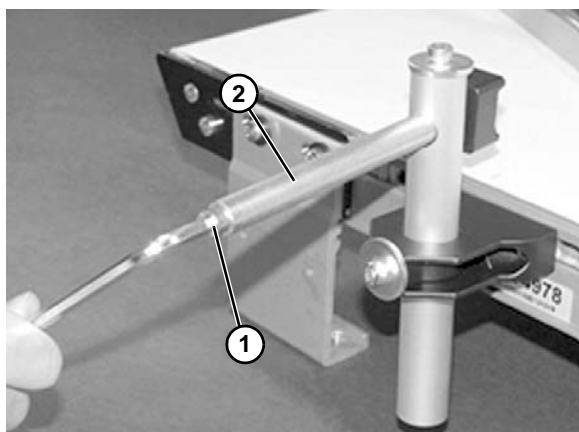
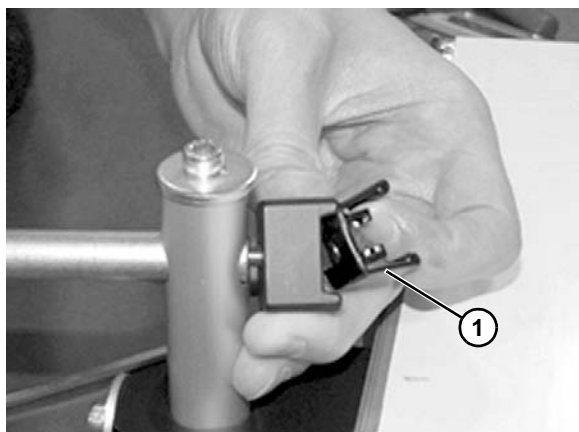
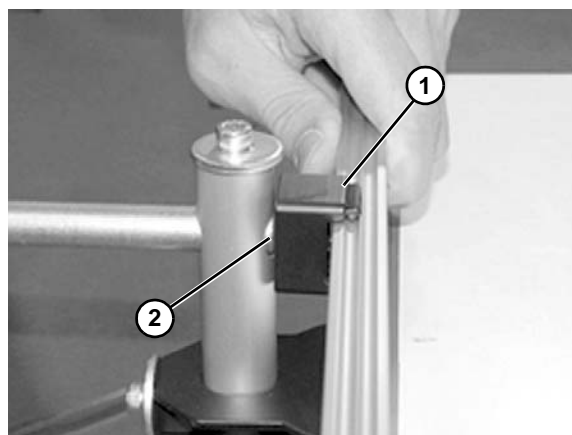

Figure 79
Figure 80
Figure 82
3. Loosen screw (**Figure 79, item 1**) on end of shaft (**Figure 79, item 2**) to remove clip (**Figure 80, item 1**).
5. Reassemble clip (**Figure 82, item 1**) and attach to shaft (**Figure 82, item 2**). Tighten screw (**Figure 79, item 1**) on end of shaft.